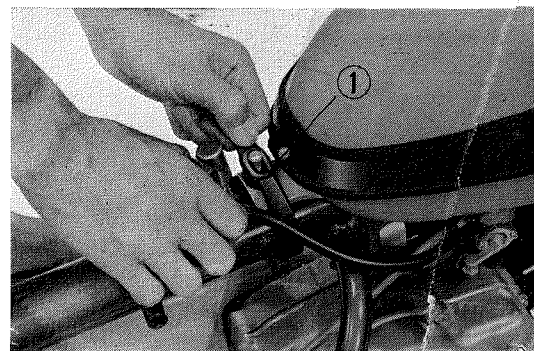

Fig. 73 Fuel tank removal
① 8mm. nut
4. Position the fuel cock lever to STOP position, disconnect the fuel tube from carburetor, remove the fuel tank setting band and then remove the fuel tank. (Fig. 73)